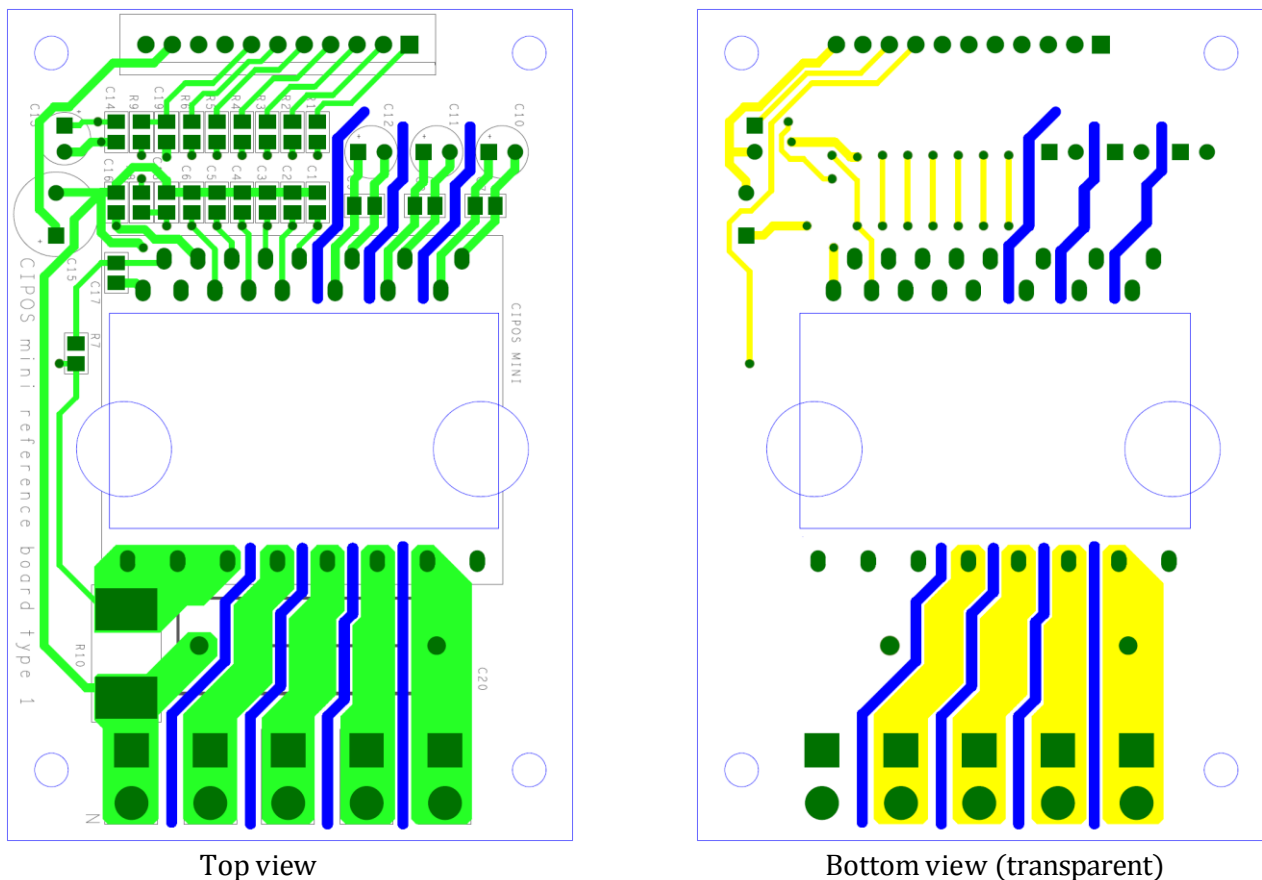

Figure 10 Layout of reference board type 1 for 1-shunt resistor
1. The connection between emitters of CIPOS™ Mini inverter IPM (N) and current sensing resistor should be as short and as wide as possible.
5. In order to accurately detect the voltage of the current sensing resistor, both sensing and ground patterns should be connected at the pins of the current sensing resistor and should not be overlapped with any patterns for the load current, as shown in Figure 10.
Ver1.1, Aug.03.2016 Page 2 Page 12 All pages All pages	Figure 1 Reference board pictures replaced Figure 10 Reference board layout pictures replaced Minor typo fixed Template changed